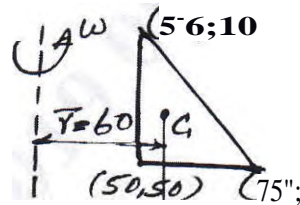

Fig.Q9(b)
b. For the element of an axisymmetric body rotating with a constant angular velocity $\omega = 1000$ rev/min as shown in Fig.Q9(b). Determine the body force vector. Include the weight of the material, $\rho = 7850 \text{ kg/m}^3$. (04 Marks)